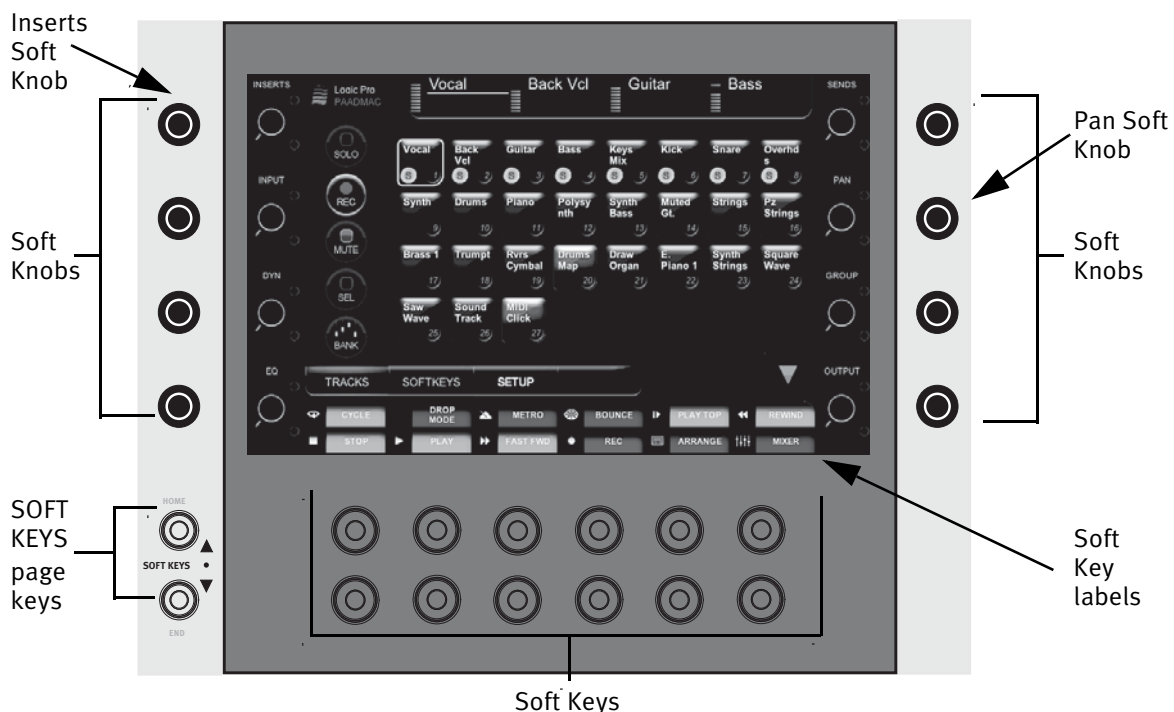

Figure 3-1 Soft Knobs, Soft Keys, and Touchscreen
- The Touchscreen has two rows of six Soft Key labels that correspond to the two rows of physical Soft Keys (Figure 3-1). Press the **SOFT KEYS ▲** and **▼** page keys to display additional Soft Key labels.
3. Press the **PAN** Soft Knob (Figure 3-1) to access the Pan knobset.
5. Press the **INSERTS** Soft Knob (Figure 3-1).